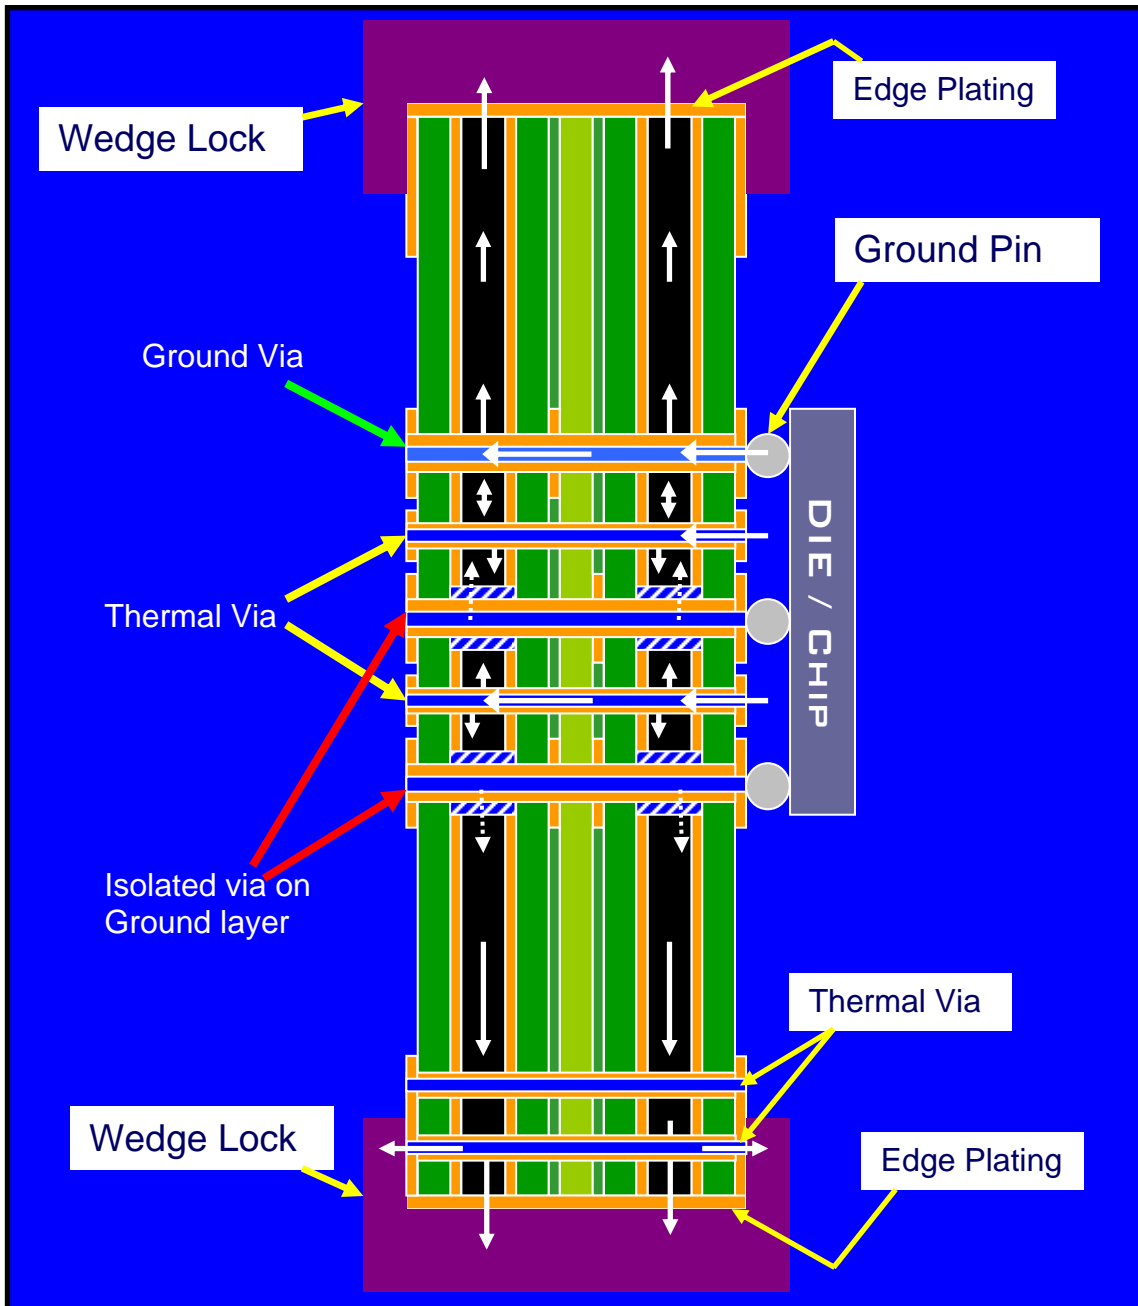

Fig. 5
5.1.2. STABLCOR® as a GND layer: Connect Ground pins to STABLCOR® Plane. Connect STABLCOR® layer using **Edge Plating** to a frame or chassis via **Wedge locks**. See Fig.5 below. This will create a thermal path from the die to the STABLCOR® GND layers to the plated edges of the PCB to wedge locks to a frame or chassis.